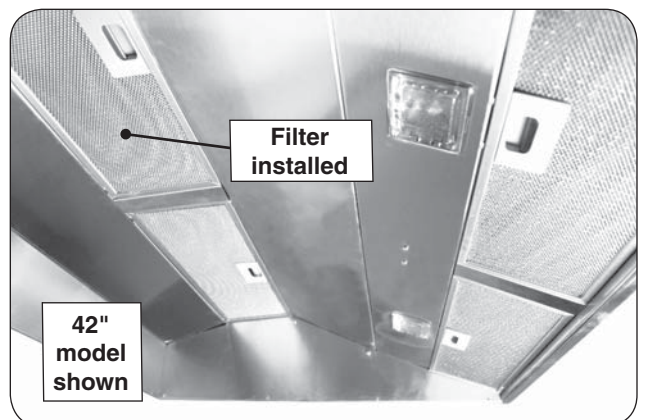

Fig. 17-4 Install filters
2. Install a filter into the vent hood by first pressing in the lever, then aligning the tabs found on the filter into the notches found in the interior of the hood. The filters will secure in place. Repeat for all filters. See Fig. 17-4.